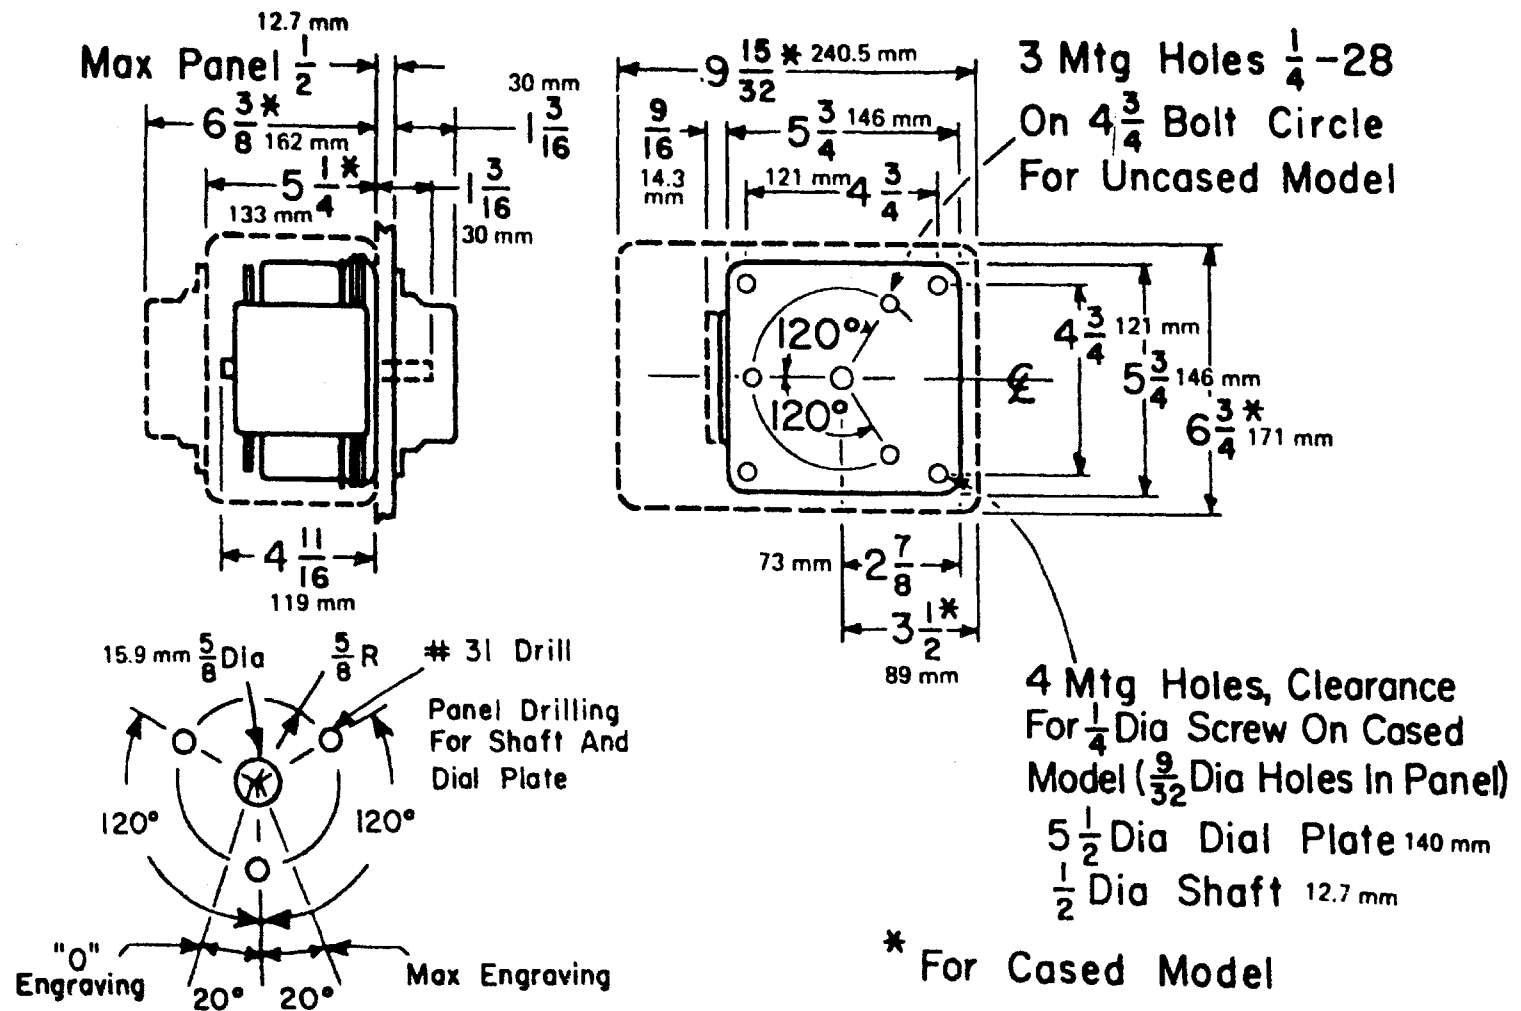

Figure 7. Dimensions of Types W10 autotransformers.
3.1 GENERAL. The Types W10M and W10HM models are cased units for either surface or back-of-panel mounting with BX or conduit connections. (See Figure 7.)